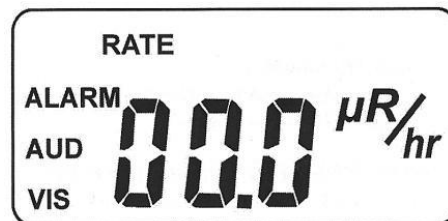

Figure 2 – The Rate Display
- The Rate Mode should appear, with the word **RATE** shown at the top left of the screen (Figure 2).